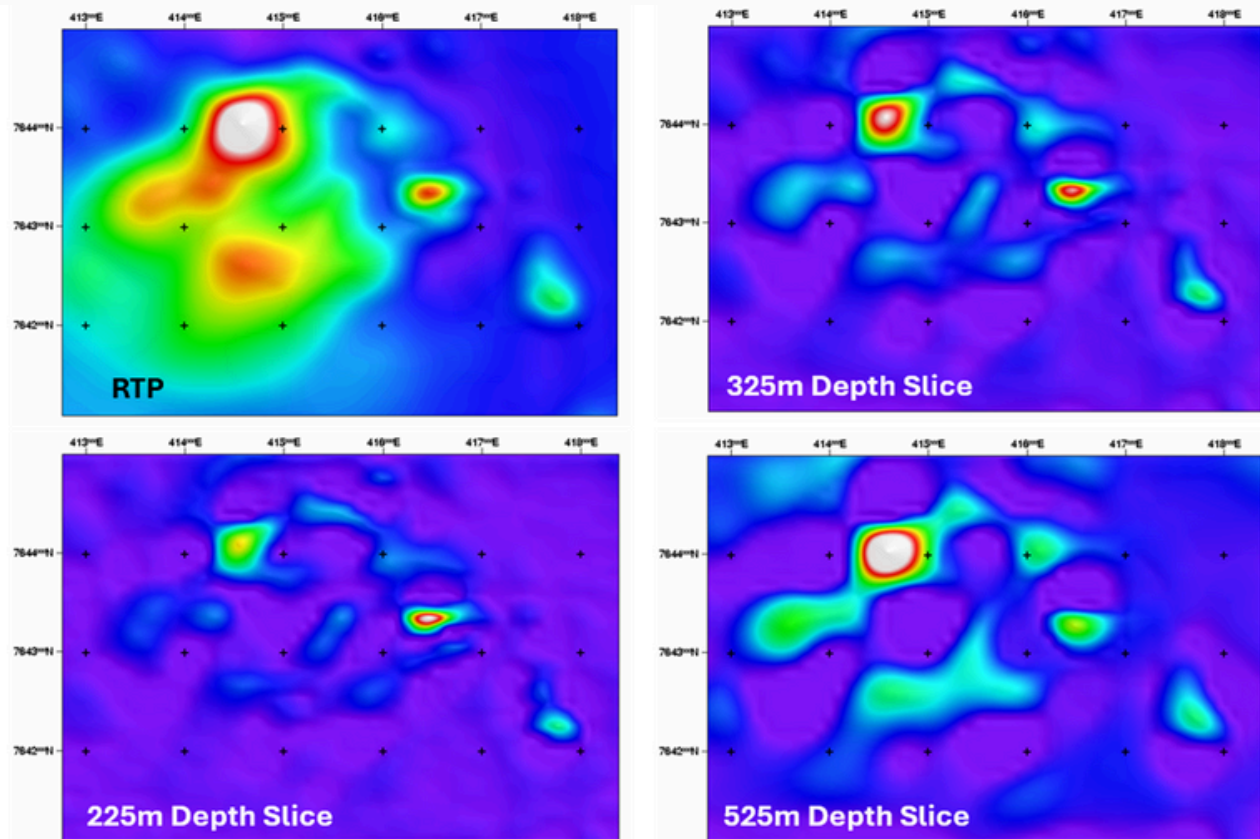

Figure 2. Volt/Ions Area – Magnetic Inversion
- **Volt and Ions prospects show two discrete magnetic anomalies that are on the edge of a broad high, potentially representing part of an intrusive carbonatite, Figure 2**